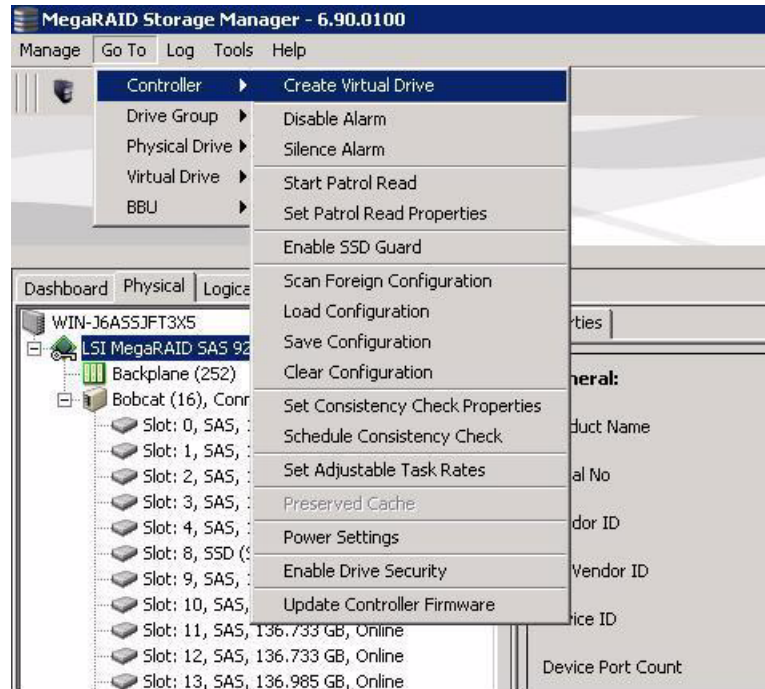

Figure 205: Create Virtual Drive Menu Option
- Select the controller node, and select **Go To>>Controller>>Create Virtual Drive** in the menu bar, as shown in Figure 205.